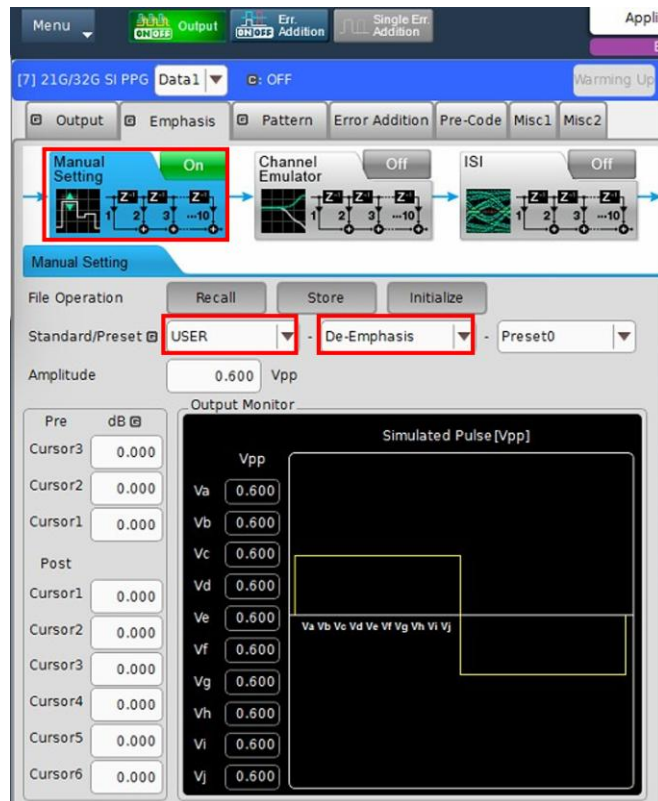

FIGURE 49. PPG EMPHASIS SETTING
- g) Turn on “Manual Setting” and set Standard/Preset pattern to “USER”, “De-Emphasis”. See Figure 49.